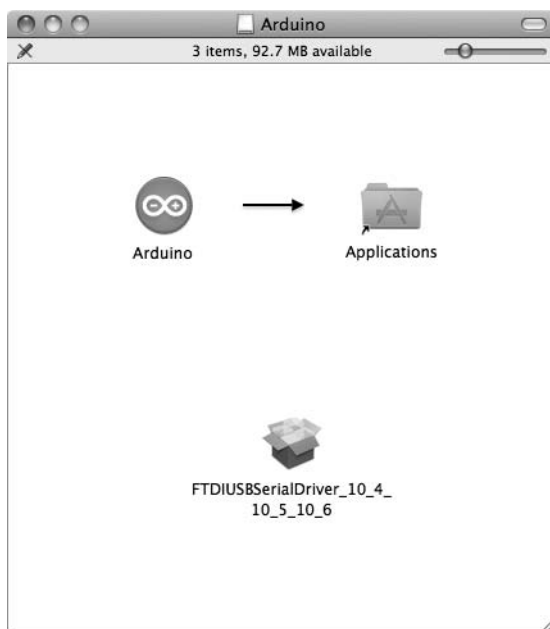

Figure 1-9: Your new Arduino IDE folder
3. Once it's finished downloading, double-click the file to start the installation process. You will then be presented with the window shown in Figure 1-9.
**NOTE** The third file icon shown in Figure 1-9 needs to be installed only if you have an Arduino board older than the current Uno.